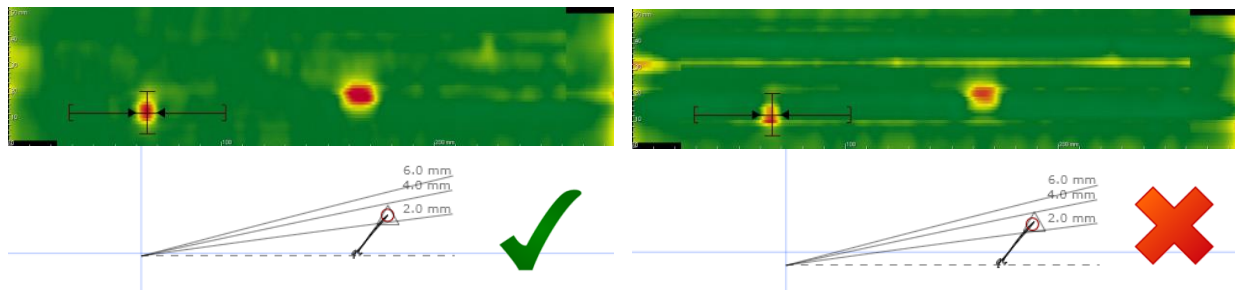

Figure 20. Correct and incorrect user material calibration
- III) Verify that the user material calibration has been done properly around the defect (see Figure 20).